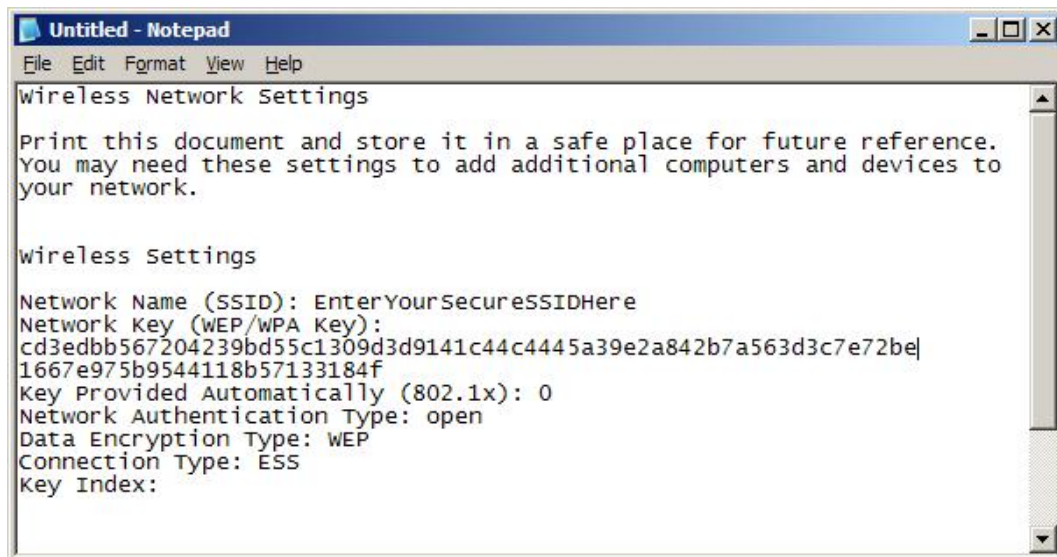

Figure 4-22 Network key
- Select the **WPA** check box, and then in the **WPA Pre-shared Key** box, enter the 64-digit hexadecimal key that was displayed as part of the Thermite settings. For more information, see Figure 4-22, "Network key" on page 43.